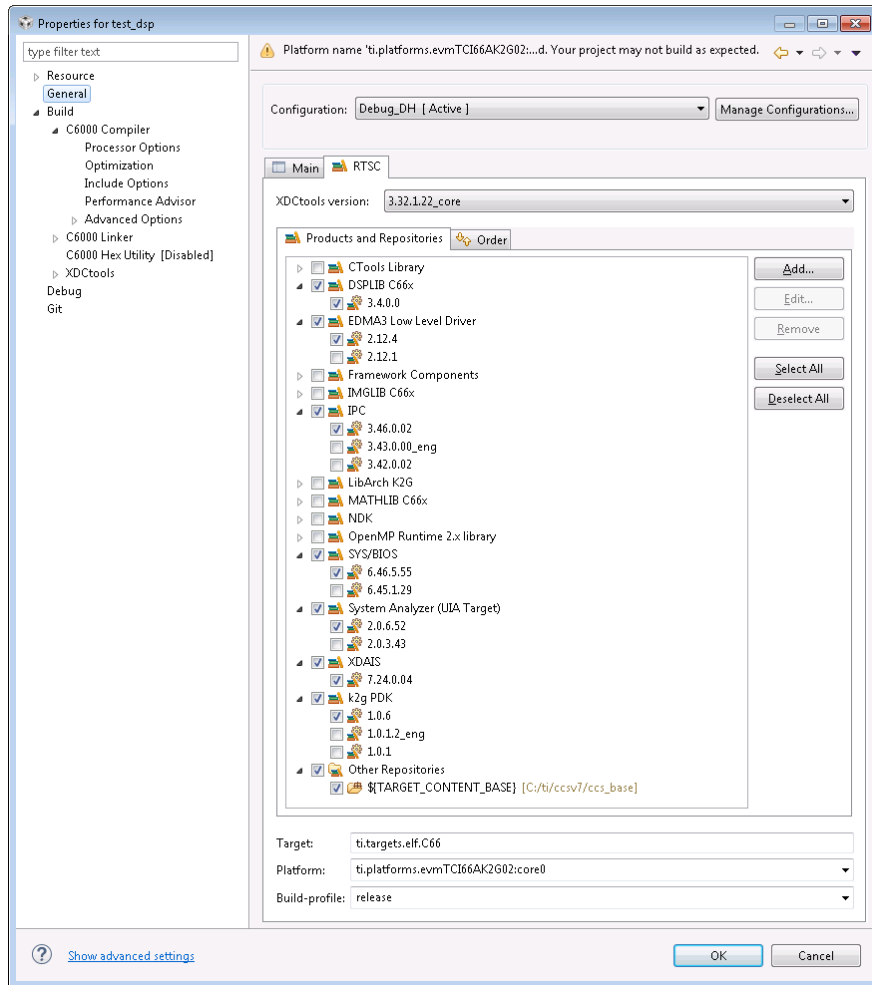

Figure 1: DSP Application RTSC Configuration
3. Ensure the correct component software versions are selected in the RTSC control panel (See Figure 1 below).